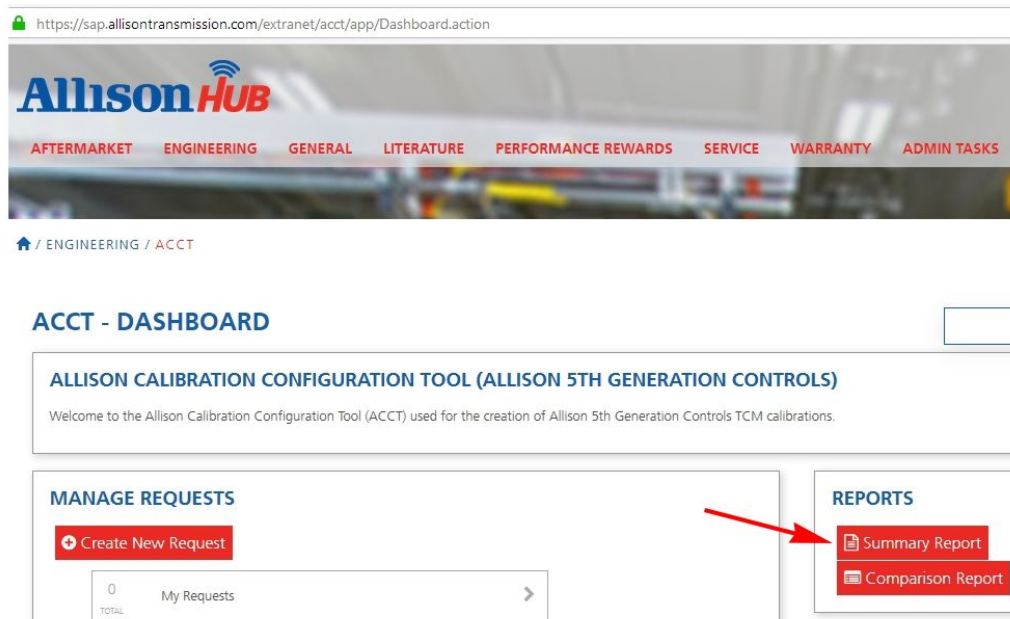

Figure 1. ACCT Main Page
- a. Choose Summary Report from the ACCT main page on the HUB. Refer to Figure 1.